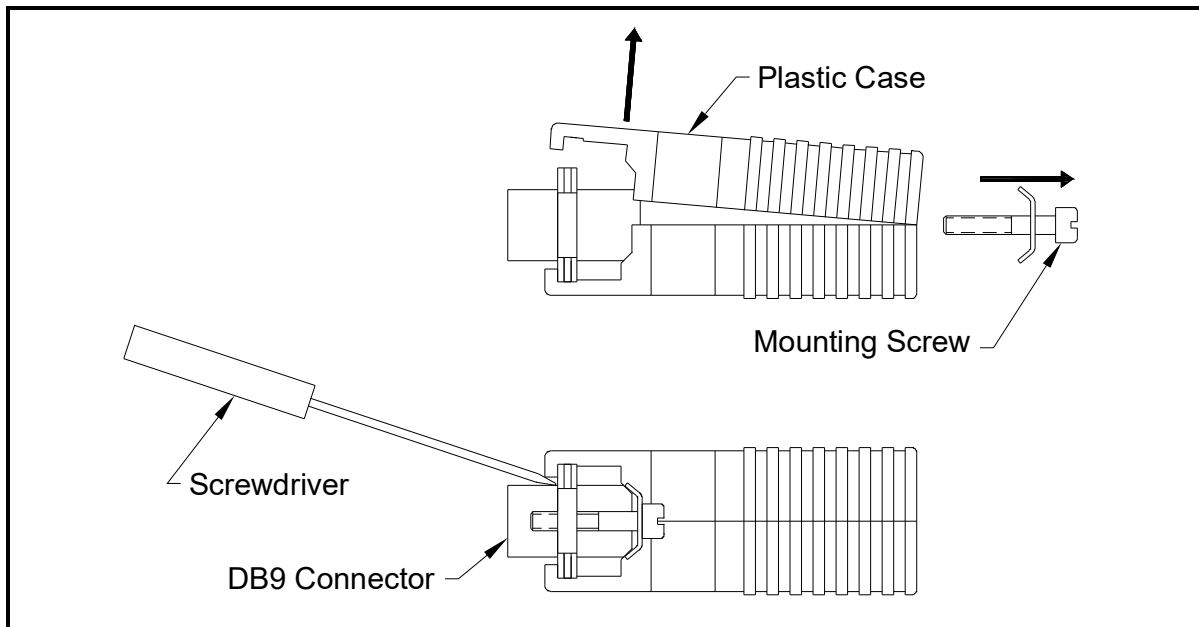

Figure 9: Opening the Converter Case
5. Use a small screwdriver to pry open the *plastic case* of the serial interface converter, as shown in Figure 9 on page 5.